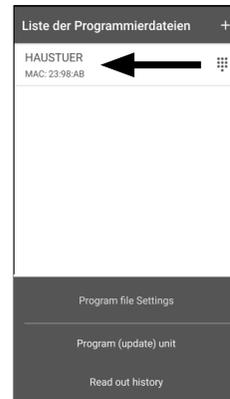

Fig. 70
- ④ The list of programming files appears. This is where the required changes are generated in programming files and collected for sending to the cylinder. By default, the list is empty because there is no collection. If there are still earlier programming files in the list, delete them by sliding the respective entry from right to left (Fig. 70).